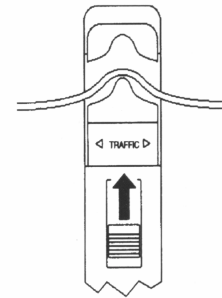

Figure 4
3. Insert the fiber to be tested between the adapter and the top of the clamp (refer to Figure 4). Slide the thumb switch upward and ensure that the fiber is installed properly in the alignment groove.